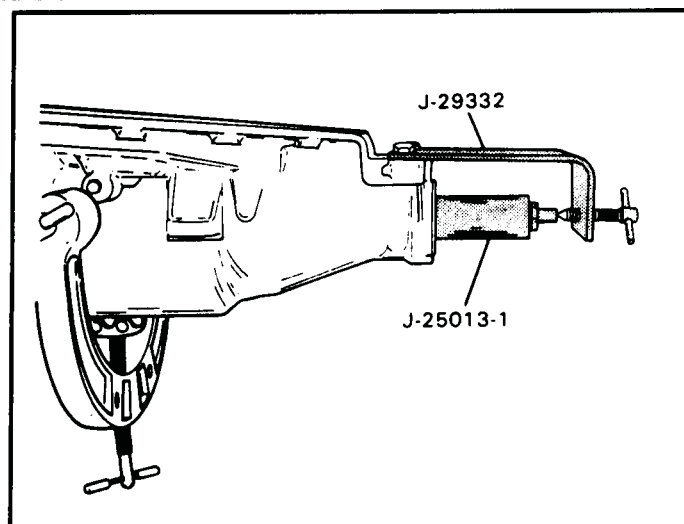

Figure 67
11. Install output shaft support fixture onto the case as shown in Figure 67.